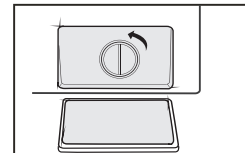

Fig 19
2.Turn the filter down as shown with the figure and take out sundries matters (Fig19) .